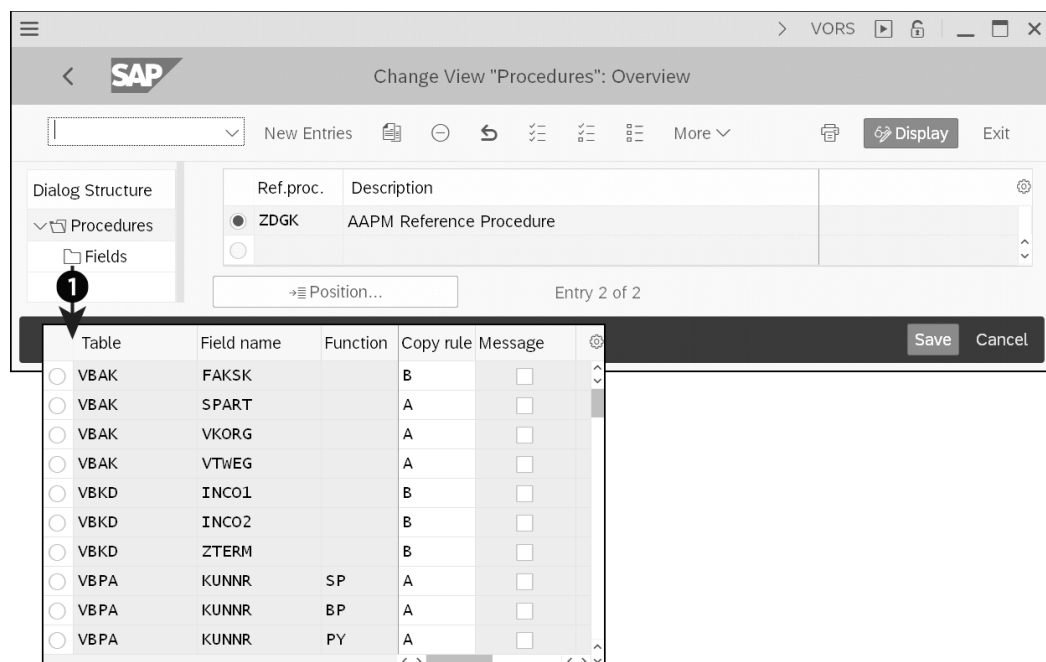
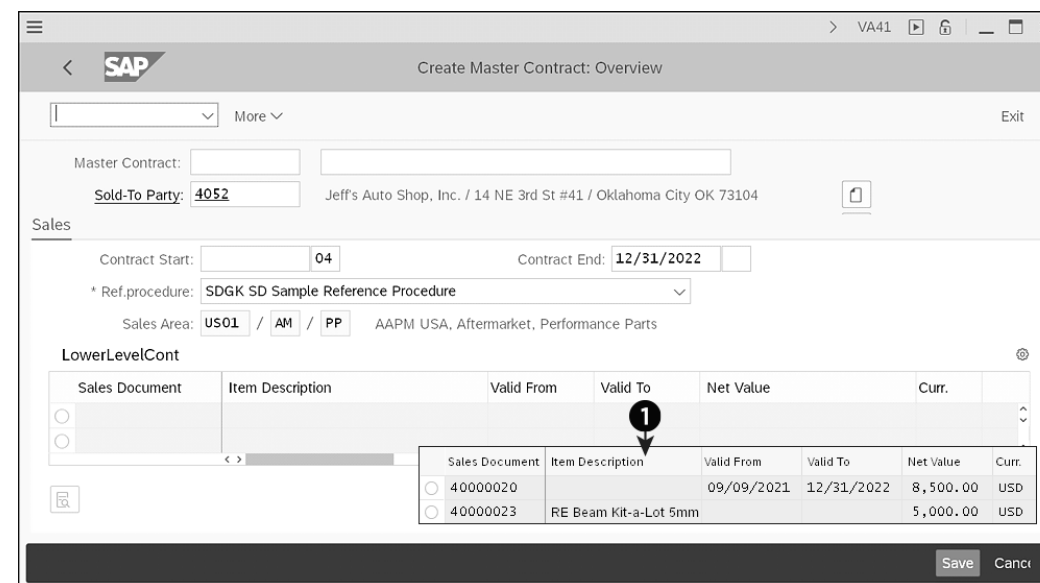

Figure 5.4 Defining Referencing Procedures
Figure 5.5 Create Master Contract Overview Screen
To configure referencing procedures, open Transaction VORS, or follow the menu path **SAP Customizing Implementation Guide • Sales and Distribution • Sales • Sales Documents • Contracts • Master Contract • Define Referencing Requirements • Define Referencing Procedures**. On the screen that opens, select the **Reference Procedure SDGK**, and then click the **Copy** button. Enter the new name (we are calling ours "ZDGK") in the **Ref.proc.** field and enter descriptive text in the **Description** field, as shown in Figure 5.4. Then press **Enter**, and click the **Copy All** button on the screen that pops up.
Next, double-click **Fields** in the **Dialog Structure** menu tree on the left side of the screen (see Figure 5.4). Now, you can delete the undesired fields, and you're just left with the fields that you want to copy from the master contract onto the contracts that refer to it.
After this configuration is in place, open Transaction VA41 to create a master contract. On the initial screen, select the master contract type **GK** and the desired sales area, and click the **Continue** button or press **[Enter]**. Then enter the basic contract data, as shown in Figure 5.5. **Sold-To Party** (customer) and **Ref.procedure** are the most important fields.
Dates in the **Contract Start** and **Contract End** fields are also commonly used to restrict the time in which this contract is valid. You may either type in fixed dates or use the two-digit codes at the end of each field to auto-populate the date based on events. The example shown in Figure 5.5 uses the default **Contract Start** date code **04 (Acceptance Date)** and a fixed **Contract End** date.
The **LowerLevelCont** (lower-level contracts) section will show the quantity and value contracts created with reference to this master contract as they are created. This area will be empty when creating a new contract and populated as contracts are created (see Figure 5.5 ❶).
You can click on the **Display Header Details** button  to enter the detailed header data. The tabs and fields largely match the ones covered in the sales order in Chapter 6, except for the **Contract data** tab, shown in Figure 5.6. Note that even though you can populate all header fields across different tabs, only the fields included in the reference procedure configuration (refer to Figure 5.4) will be copied to the quantity and value contracts created with reference to this master contract. The **Contract Start Date** and **Contract end date** fields are the same from Figure 5.5.
Don't click the **Create with Reference** button, even if you have a master contract to use as reference; instead, you'll use the **Master Contract** field on the next screen. This signals to the transaction that you aren't going to use the copy control, but the reference procedure configured as shown previously in Figure 5.4.
Don't click the **Create with Reference** button, even if you have a master contract to use as reference; instead, you'll use the **Master Contract** field on the next screen. This signals to the transaction that you aren't going to use copy control, but the reference procedure configured per Figure 5.4, shown previously.
Adding the **Master Contract** on the screen shown in Figure 5.10 will trigger the reference procedure configured per Figure 5.4, shown previously, which will copy all relevant fields from the master contract into this value contract. Note, however, that because we're not using copy control, the document flow isn't updated with the master contract reference.